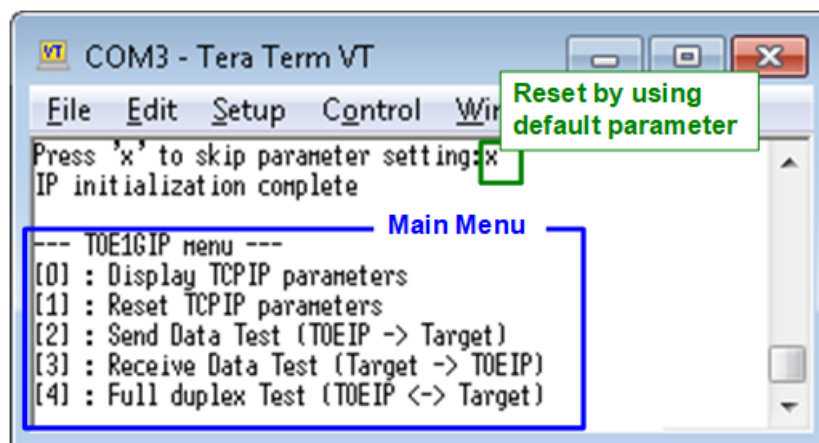

Figure 1-6 Initialization complete
- c. User enters 'x' to skip parameter setting for using default parameters to begin system initialization, as shown in Figure 1-6. If user enters other keys, the menu for changing parameter is displayed, similar to "Reset TCPIP parameters" menu. The example when running the main menu is described in "dg\_toe1gip\_cpu\_instruction" document.